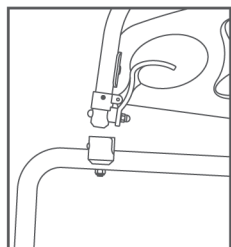

Figure 9
- Reversible handrail: Press and hold the handrail buckle to separate the buckle from the frame, and then pull up the front end of the hand rail, as shown in Figure 9.